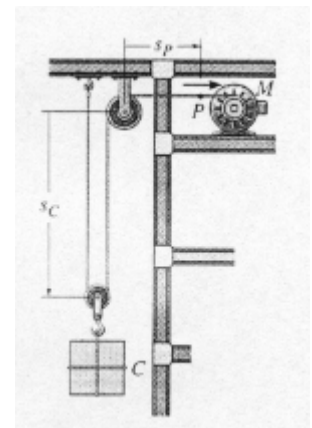

Figure 3 A Hoist
3. The motor M of the hoist operates with an efficiency of 0.85 shown Figure 3. Determine the power that must be supplied to the motor to lift the 375 N block C so that point P on the cable is being drawn in with an acceleration of 1.2 m/s^2 , and at the instant shown its speed is 0.6 m/s . Neglect the mass of the pulley and cable. (20%)